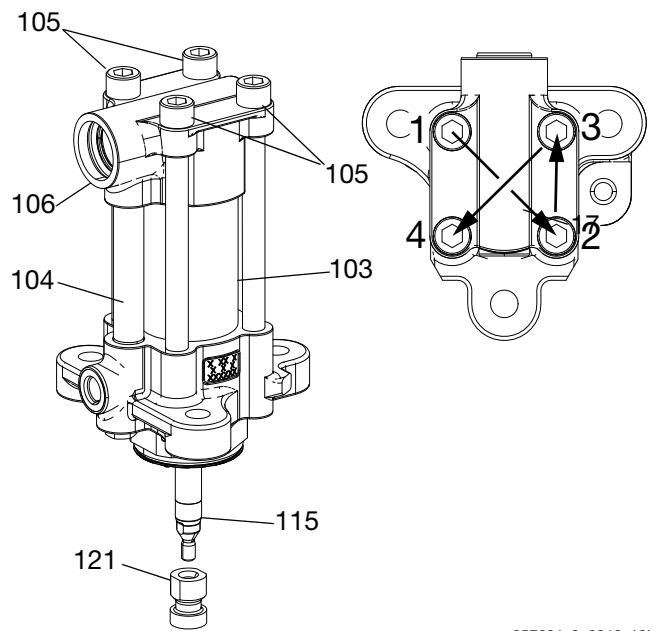

FIG. 29
14. Lubricate four tie bolts (105) threads and install.
15. Torque tie bolts (105) in a star pattern (see FIG. 29) to 10 ft-lbs (13.5 N•m). Then torque again to 50 ft-lbs (67.5 N•m). Torque a final time to 200 ft-lbs (271 N•m)
16. After torquing the four tie bolts (105) ensure the inlet housing (106) is evenly seated onto the pump cylinder (103) and pump crossover tube (104).
17. For 20cc-40cc pumps only: Clean rod adapter (121) threads with a wire brush and apply removable strength thread locker to displacement rod (115) threads. Install rod adapter (121) on displacement rod (115). Torque Rod adapter and displacement rod together to 45 ft-lbs (60.75 N•m). See FIG. 29.
△ Torque tie bolts (105) in star pattern (FIG. 29 page 17) to 10 ft-lbs (13.5 N•m). Then torque again to 50 ft-lbs (67.5 N•m). Finally torque to 200 ft-lbs (271 N•m).
Torque tie bolts (105) in star pattern (Fig. 29 page 17) to 10 ft-lbs (13.5 N•m). Then torque again to 50 ft-lbs (67.5 N•m). Finally torque to 200 ft-lbs (271 N•m)